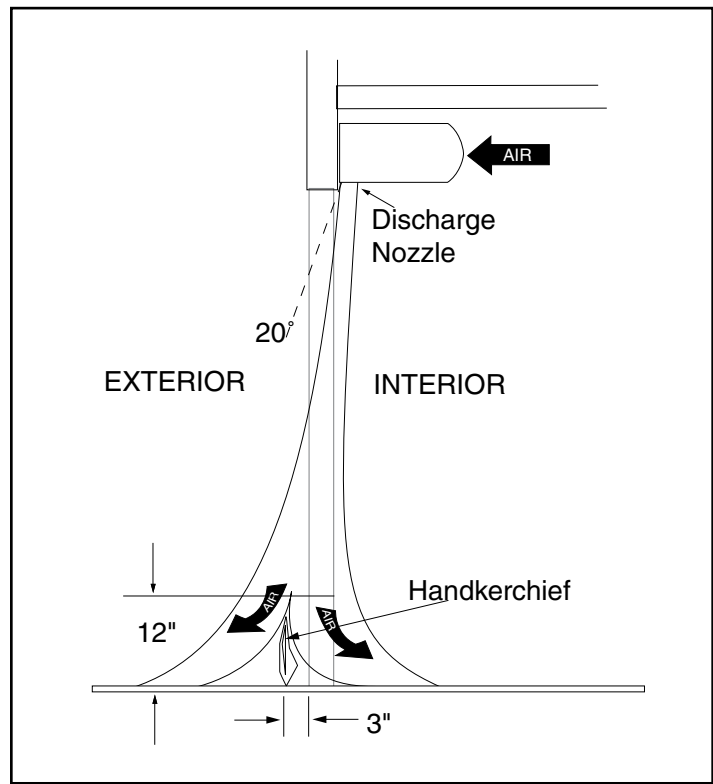

Figure 10
2. Find the air stream split location. Hold a handkerchief by its corners, approximately 12" above the floor. Gently move the handkerchief back and forth in the doorway. Make sure the air is being directed to both the inside and the outside. **See Figure 10.** The split location is indicated where the handkerchief is vertical with minimal or no fluttering.